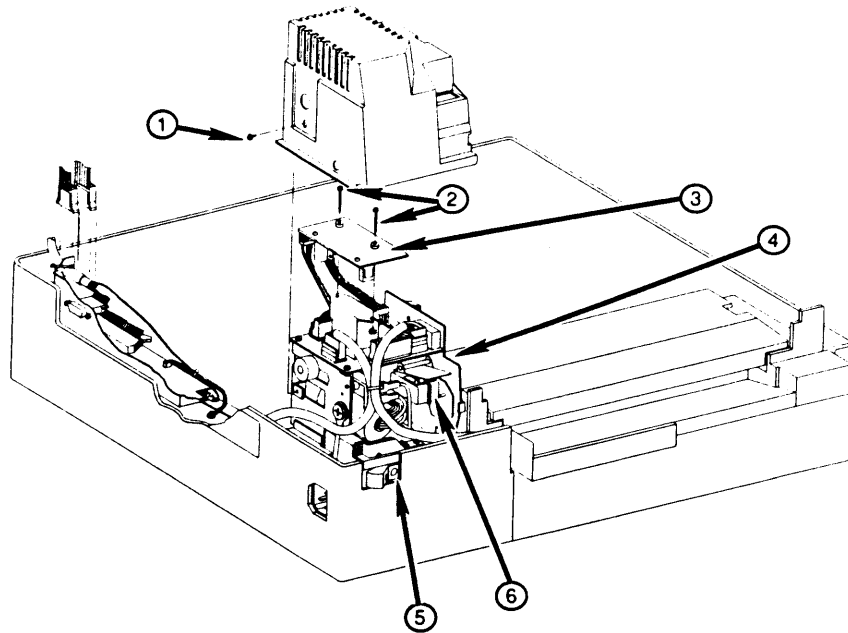

FIGURE 2-18
The power interlock assembly consists of the AC driver PCB, which is a two-board assembly (Figure 2-18, #3 and #4); the main power switch (Figure 2-18, #5); and the two microswitches (Figure 2-18, #6), which cut off power to the printer when the printer is opened (upper main body raised). The procedures below cover the removal and replacement of the AC driver PCB.
1. Remove the black, flanged screw near the circuit breaker (Figure 2-18, #1) and lift off the plastic assembly cover. The cover swings up and to the rear in an awkward manner, but don't worry—just keep gently working at it, and it will come off.
2. Remove the two fastening screws (Figure 2-18, #2).